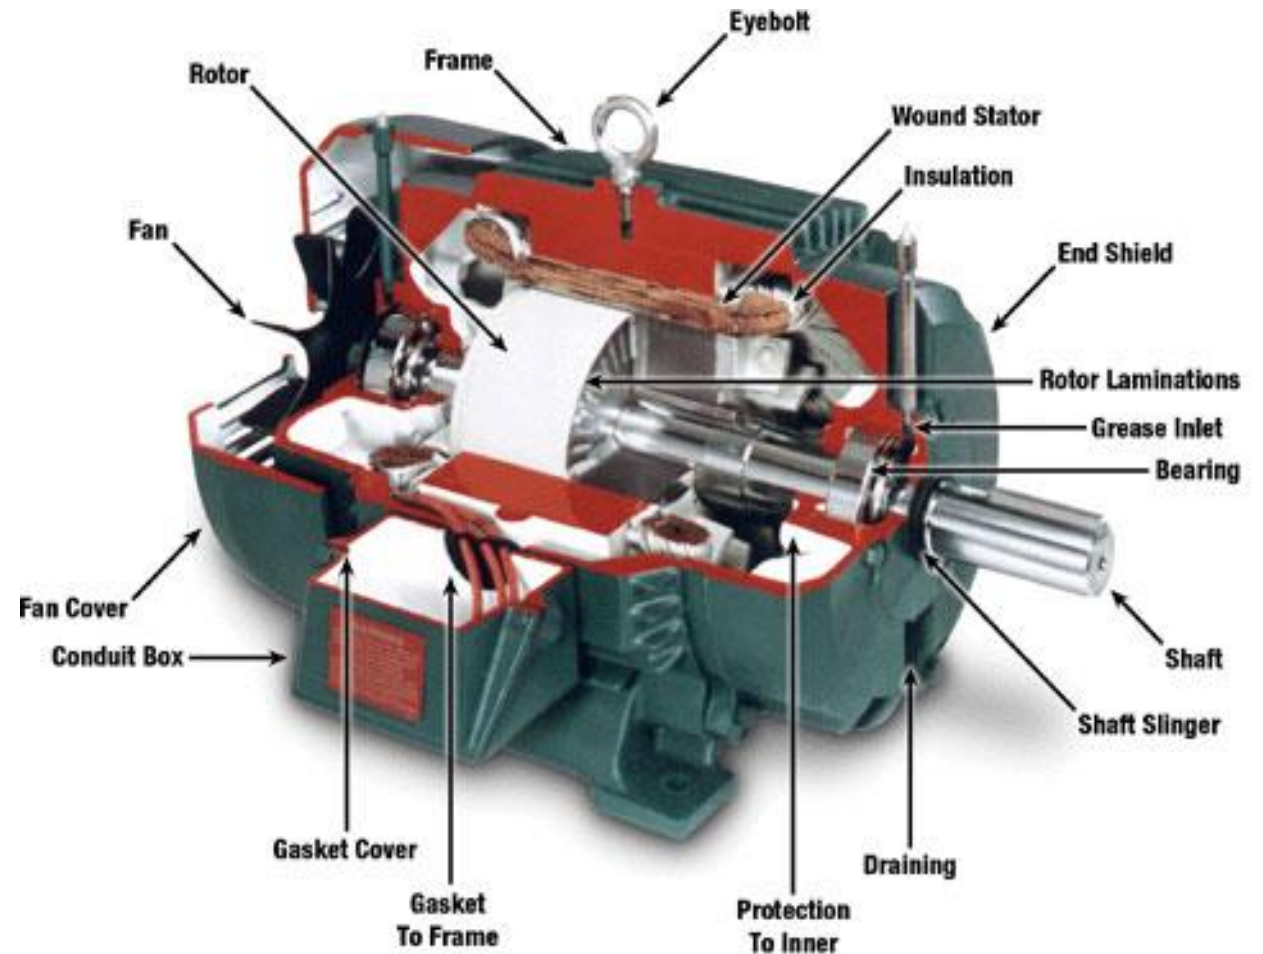

Figure 14
- 8) Figure 14, (n.d.). Retrieved from <https://www.elprocus.com/difference-dc-motor-servo-motor-stepper-motor/>